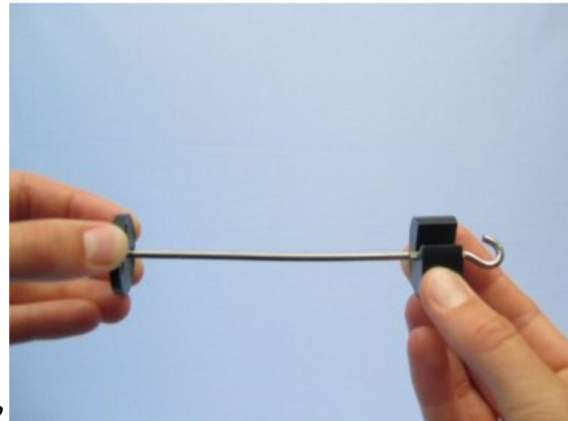

Fig. 13
- For hanging the slotted weight up the weight holder, you should slip the slotted weight over the top end of the weight holder (Fig. 13).